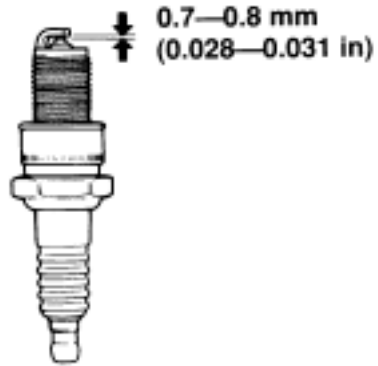

Figure 19: Spark Plug Gap
- (1) Visually inspect the spark plug. Discard it if the insulator is cracked or chipped. Clean the spark plug with a wire brush if it is to be reused.
- (2) Measure the plug gap with a feeler gauge. Adjust the gap as necessary by bending the side electrode (Figure 19).